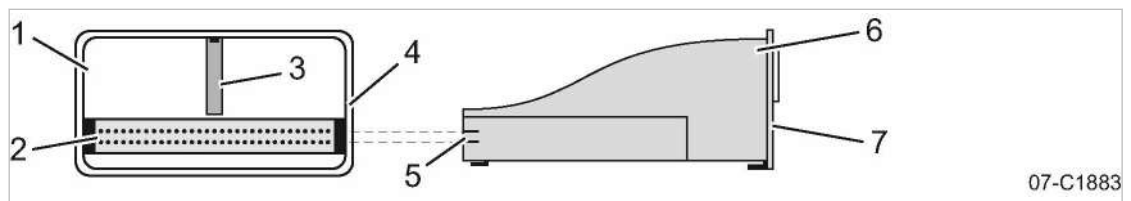

Fig. 29 Insert the communication module.
2. Insert the communication module into the bay of interface X4 until it latches (see Fig. 29)